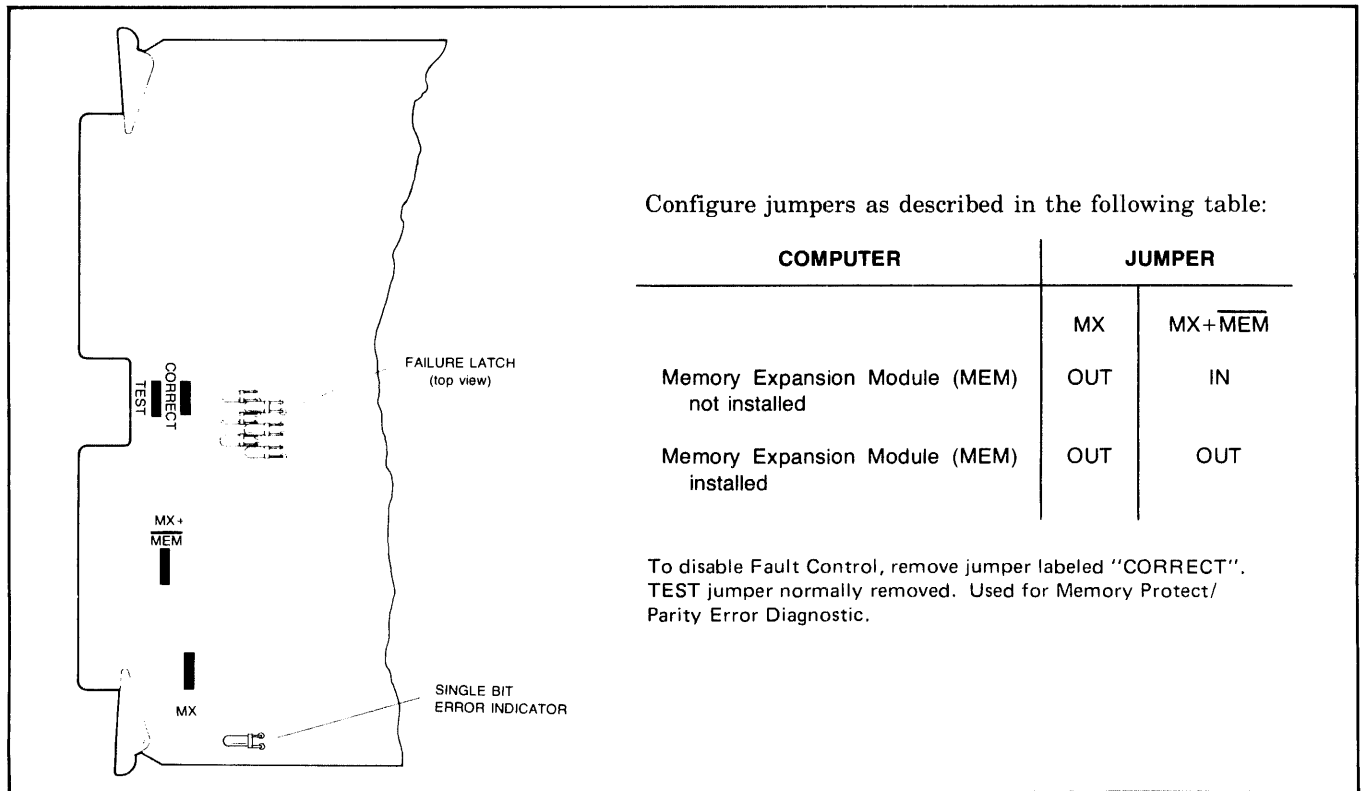

Figure 4-2. 2102H Memory Controller Jumpers
- Configure memory controller, Memory Expansion (MEM), and CPU compatibility jumpers as shown in figure 4-2.